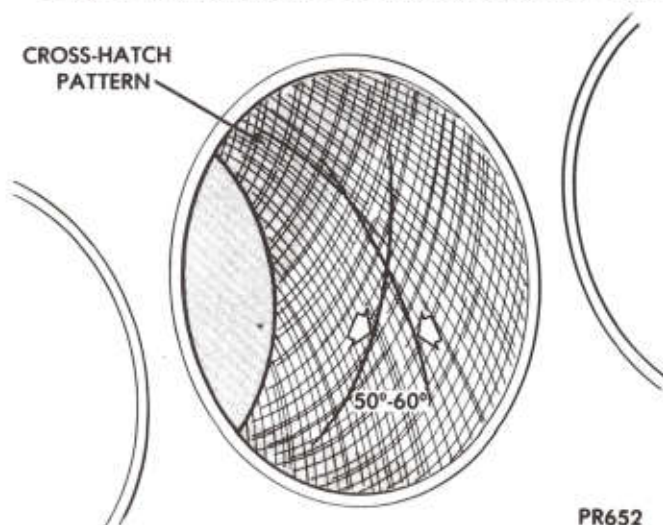

Fig. 2—Cross Hatch Pattern
(2) Deglazing of the cylinder walls may be done using a cylinder surfacing hone, Tool C-3501, equipped with 280 grit stones (C-3501-3810). If the cylinder bore is straight and round 20-60 strokes depending on the bore condition will be sufficient to provide a satisfactory surface. Inspect cylinder walls after each 20 strokes. Using honing oil C-3501-3880 or a light honing oil available from a major oil distributor. **Do not use engine or transmission oil, mineral spirits or kerosene.**
(3) Honing should be done by moving hone up and down fast enough to get a cross hatch pattern. When hone marks intersect at 50-60 degrees, cross hatch angle is most satisfactory for proper seating of rings. (Fig. 2).
(4) A controlled hone motor speed between 200-300 RPM is necessary to obtain the proper cross-hatch angle. The number of up and down strokes per minute can be regulated to get the desired 50-60 degree angle. (Faster up and down strokes increase the cross-hatch angle).
(5) After honing, it is necessary that block be cleaned again to remove all traces of abrasives.